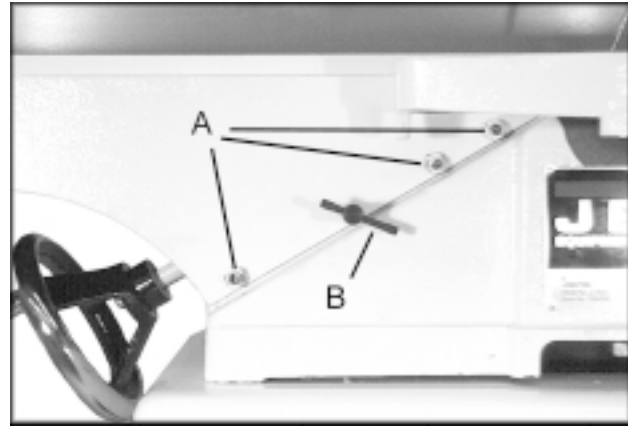

Fig. 29
1. Loosen three lock nuts (A, Fig. 29) and gib lock screw (B, Fig. 29)
3. Tighten lock screw (B, Fig. 29) and lock nuts (A, Fig. 29).